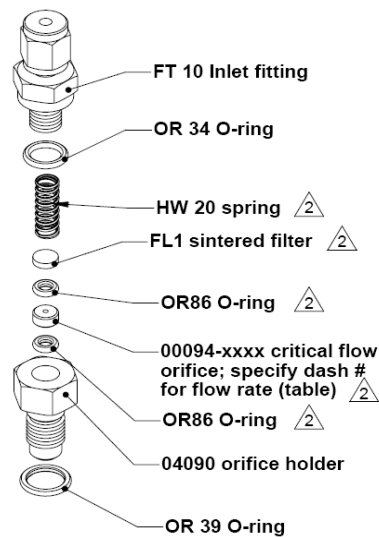

FIGURE 4 - Flow Control Assy P/N 045500200
20. Remove the contents of the orifice holder and reinstall them in the order depicted in figure 4.